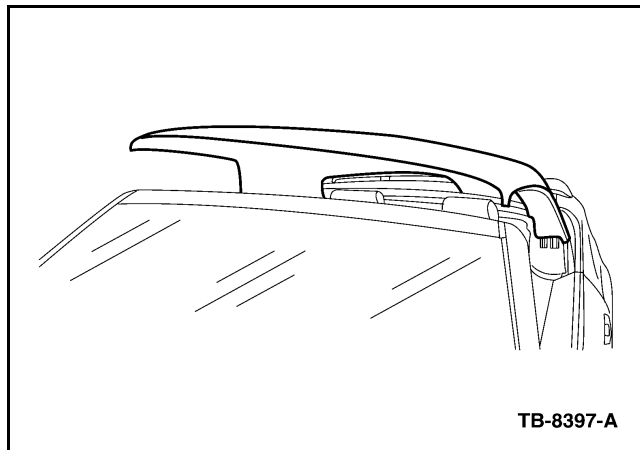

Figure 1 - Article 05-24-6
1. Top lifts unevenly side-to-side with no hydraulic system issues. (Figure 1)